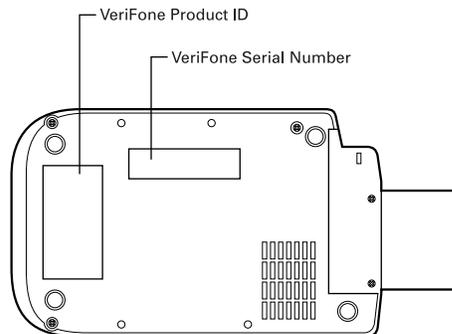

Figure 12 Information Labels on Bottom of Terminal
1. Gather the following information from the printed labels on the *bottom* of each Omni 3300 terminal (Figure 12):